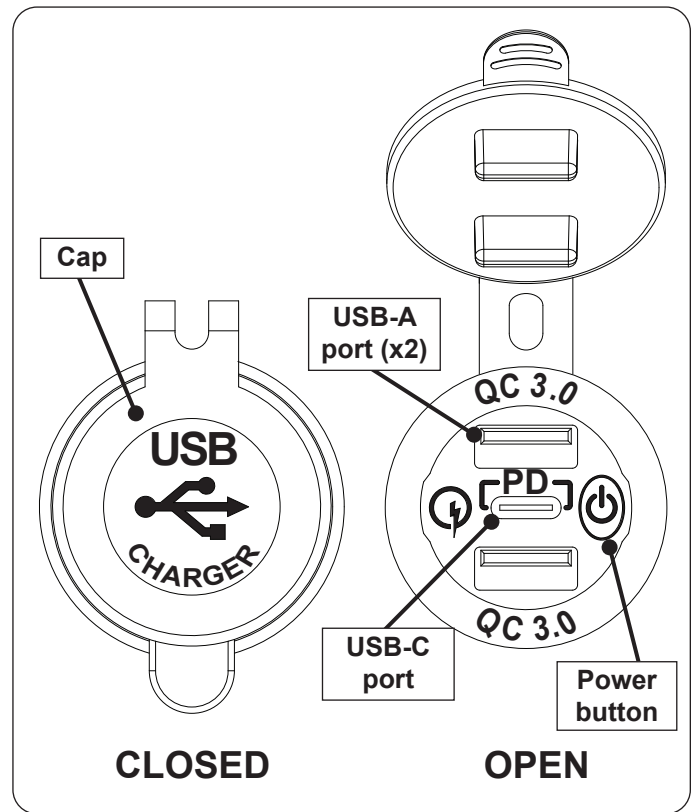

Fig. 45-1 USB outlet overview
Fyrestarter (H) models are equipped with a USB outlet for charging electronic devices. To use, see Fig. 45-1 and follow the steps below.
1. Locate the control panel on the side of the unit (refer to the IDENTIFICATION PARTS LIST if needed), and identify the USB outlet (see Fig. 45-1).